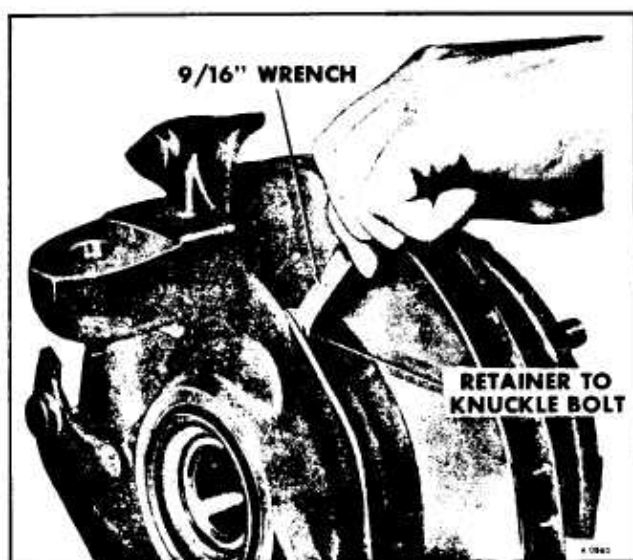

Figure 7-Retainer Bolt Removal
8. Loosen uniformly and remove the three bolts securing the retainer to the knuckle (figure 7).